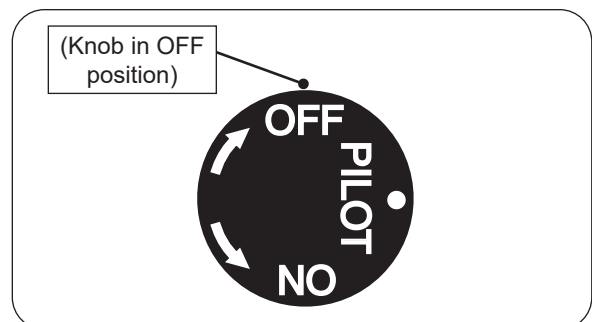

Fig. 19-2 Pilot shut down
2. Locate the valve on the side of the unit. Push in the gas control knob slightly and turn clockwise to **OFF** (see Fig. 19-2).
Push in the control knob slightly and turn clockwise to **OFF**. Do not force. See Fig. 19-2.